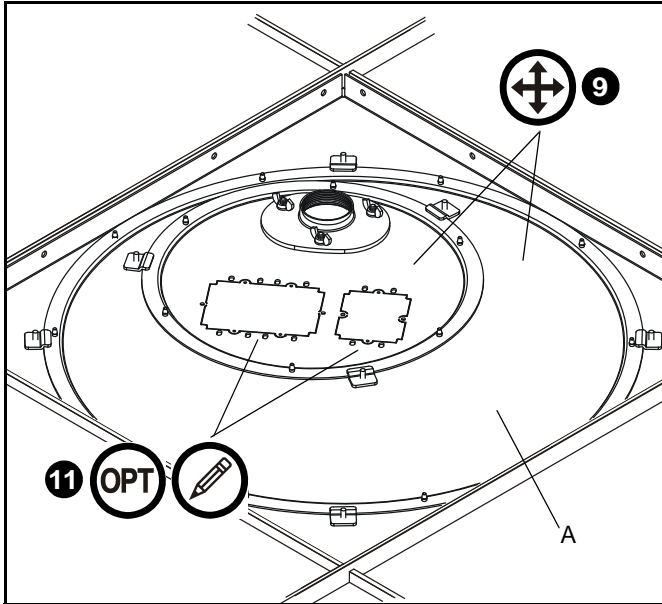

Figure 4
9. Rotate large and small circular plates to position extension column support to the following location (See Figure 4):
Mark location of electrical cutout on ceiling tile with pencil (See Figure 4).